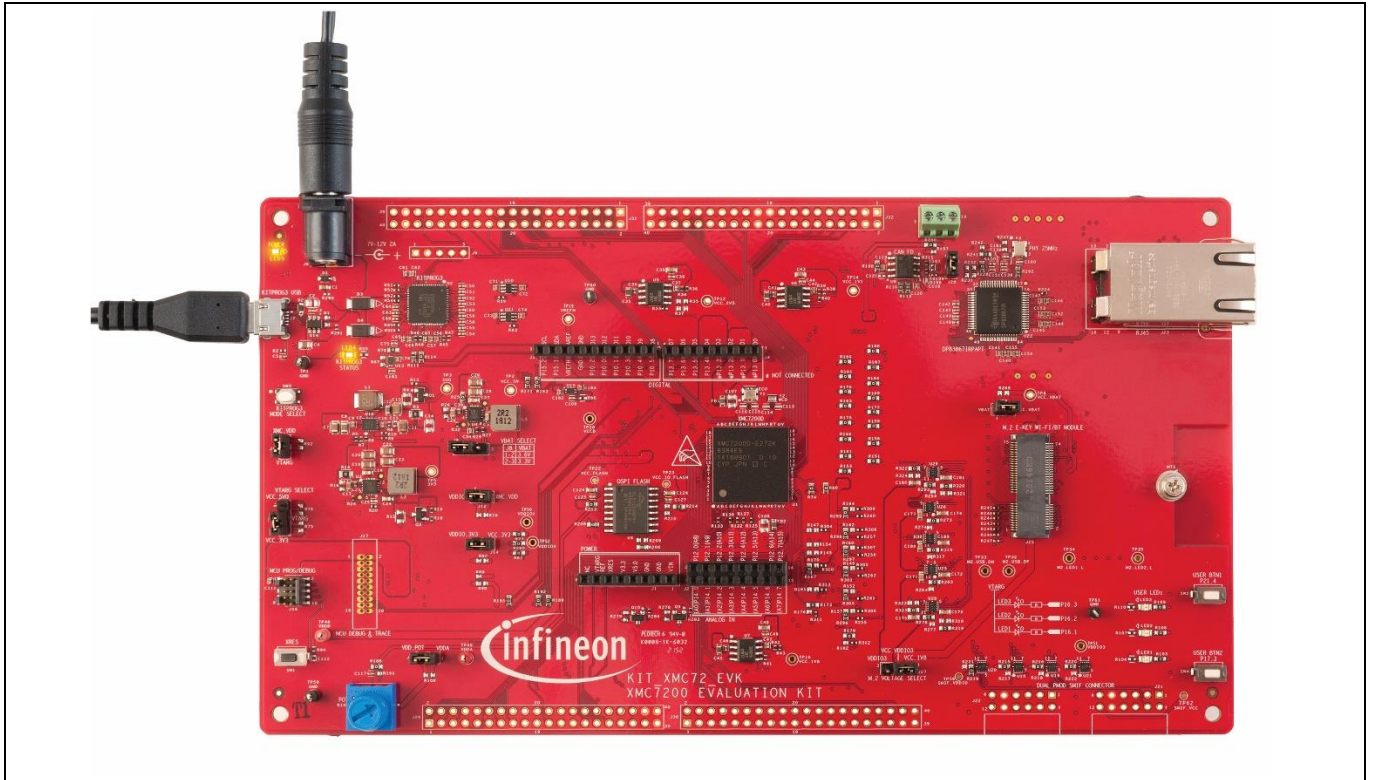

Figure 8 Connect USB cable to USB connector on the board
1. Connect the board to the PC using the provided USB cable through the KitProg3 USB connector, as shown in Figure 8. It enumerates as a USB composite device if you are connecting it to your PC for the first time.